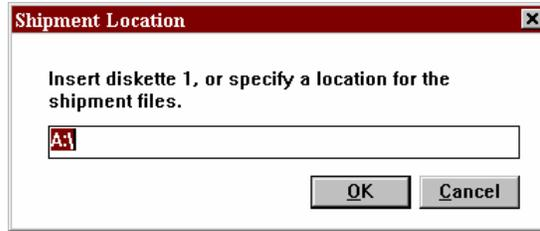

Figure 31 - Shipment Location dialog
- 5) Press the **S**end button and the program will prompt you for a diskette ( Figure 31).